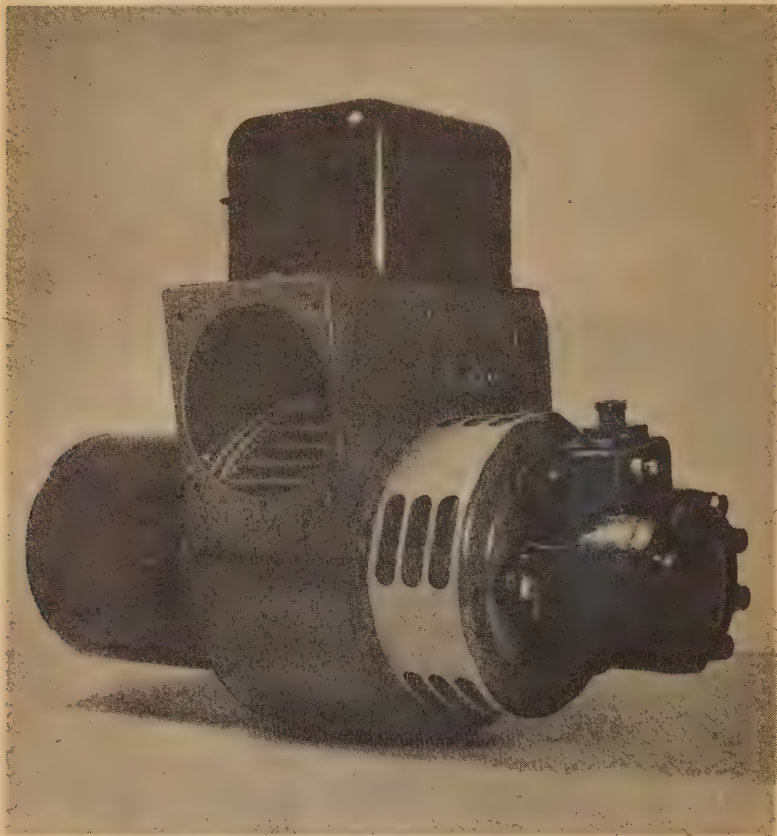

Figure 24.
Step 2: The oil burner. Figures 24 to 27 show a typical oil burner and its parts. The serviceman won't strip it down to the degree shown; this isn't necessary for effective servicing.